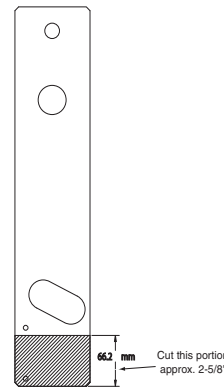

Fig. 12 - Header Plate Cut-Off
- Cut bottom portion of **header plate**, just below the drain connections, see Fig. 12.
5. Cut bottom portion of **header plate**, just below the drain connections. See Fig. 12.